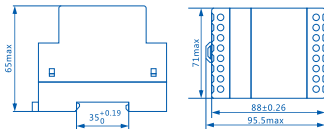

Figure 5 Outline and Installation Size of NJBK2 Series Protector
3.4 Outline and installation size of the protector: see Figure 5, unit: mm.